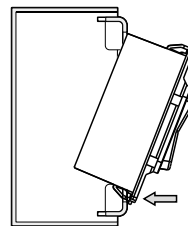

Fig. 1
2. Carefully push the Kinetic grid switch module back through the grid frame until the clip on the top of the module has clicked into place (Fig. 1).